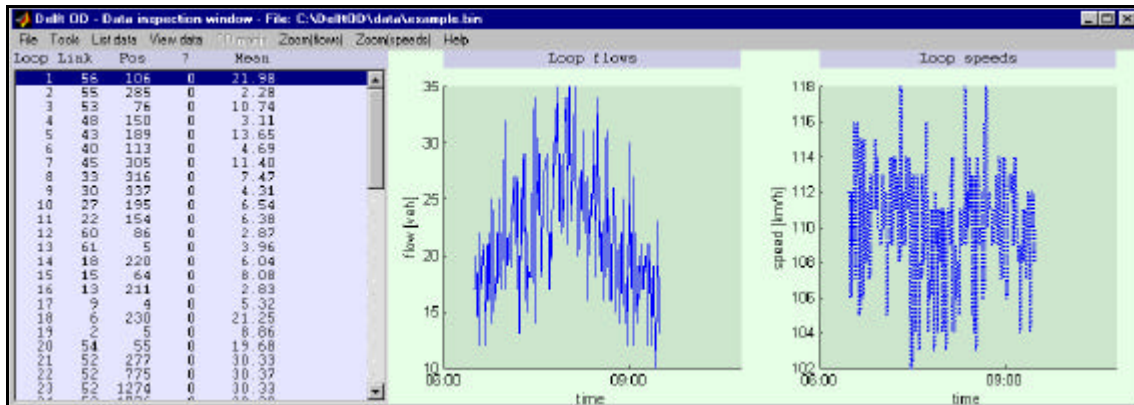

Figure 3: Main window of the DelftOD software after loading input data.
- ◆ The main window after loading the input data is shown in Figure 3. The flow data and the speed data for each loop are plotted and plots can be zoomed in by clicking on the plot or by using the “Zoom” menu.